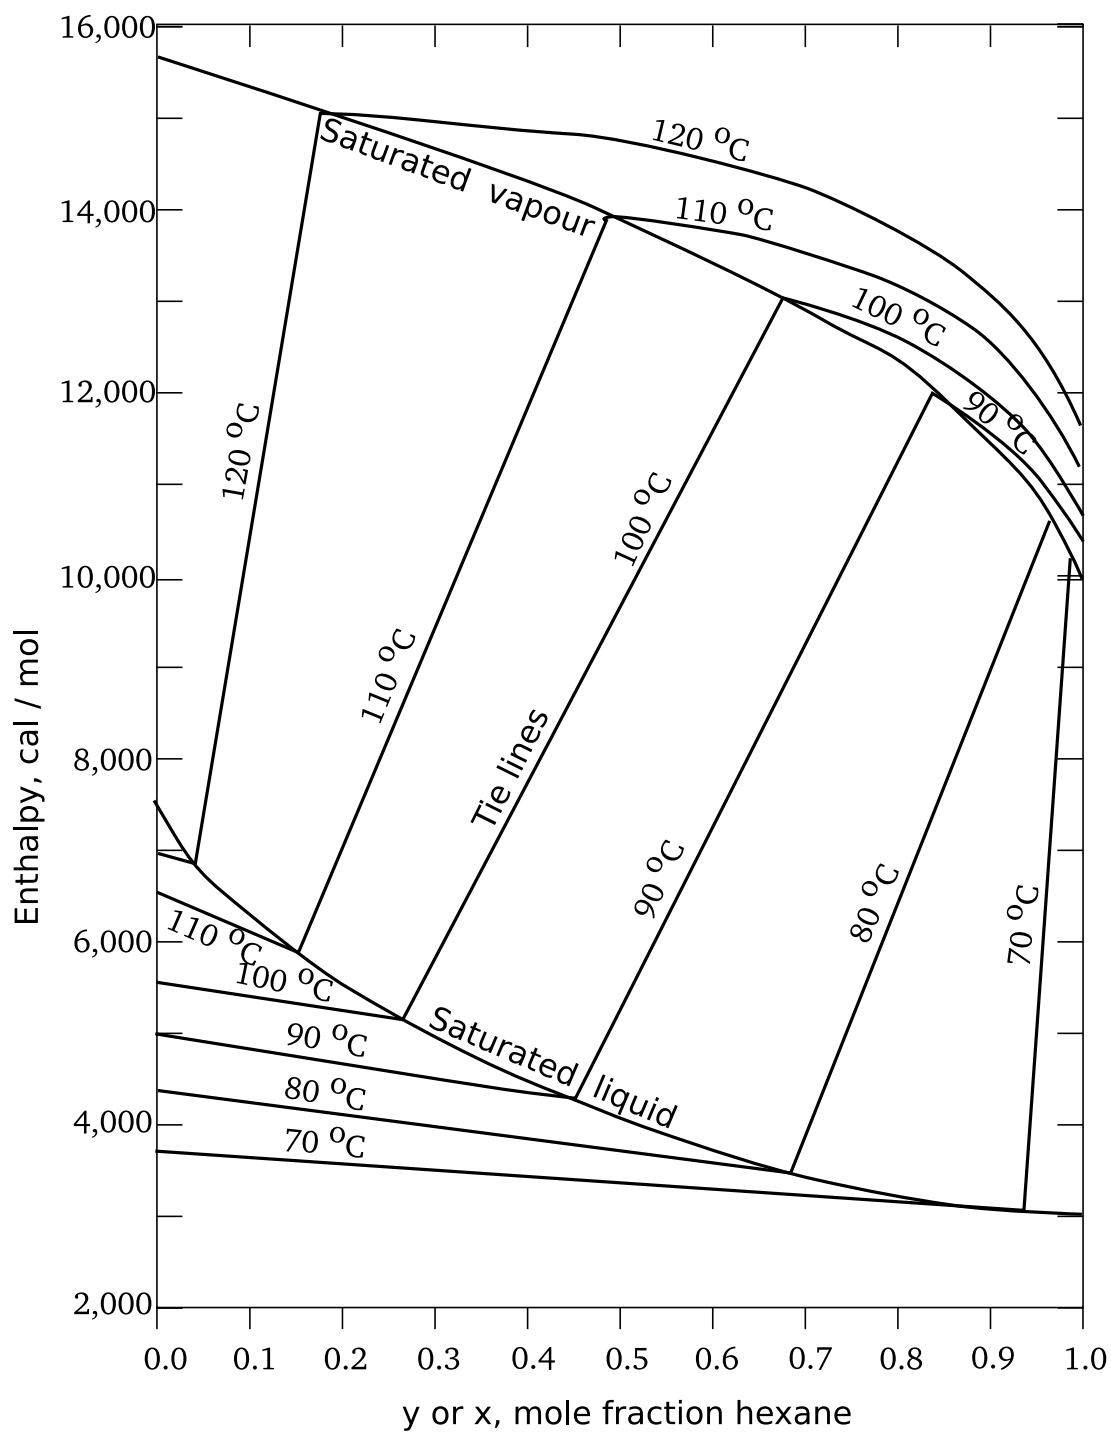

Figure 42: Enthalpy concentration diagram for hexane-octane mixtures at 760 mmHg. For use in Q. c, 39, and 40.
- c) A mixture of n -hexane and n -octane is to be separated by distillation to produce a bottom product containing no more than 3 mol% n -hexane and a top product of at least 95% purity of n -hexane. Using the enthalpy-composition chart (see Fig. 42), determine:
Using the enthalpy-composition diagram for hexane-octane in Fig. 42, construct a temperature-composition (T - x - y) diagram and a x - y diagram at the same pressure of 760 mmHg. The boiling temperatures of the pure components are 68.5 and 125.8°C.
An equimolar mixture of hexane and octane is throttled from a moderately high pressure into a flash vessel maintained at a pressure of 760 mmHg. Determine the temperature at which the vessel must be maintained for each of the following degrees of vaporisation (V/F): 0.00, 0.25, 0.50, 0.75, 1.00. You will need the enthalpy-composition diagram for hexane-octane in Fig. 42.